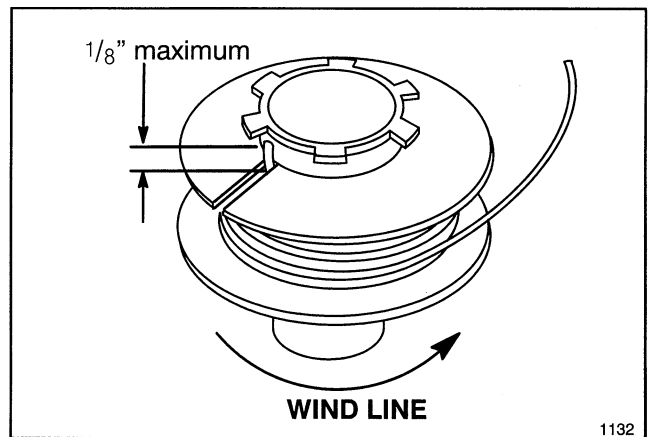

Figure 14
1. Hook one end of line into slot on spool, **allowing no more than 1/8" to protrude. Push end of line all the way to the inner end of slot.** Wind line in direction of arrow on spool in level rows between spool flanges (Fig. 14).